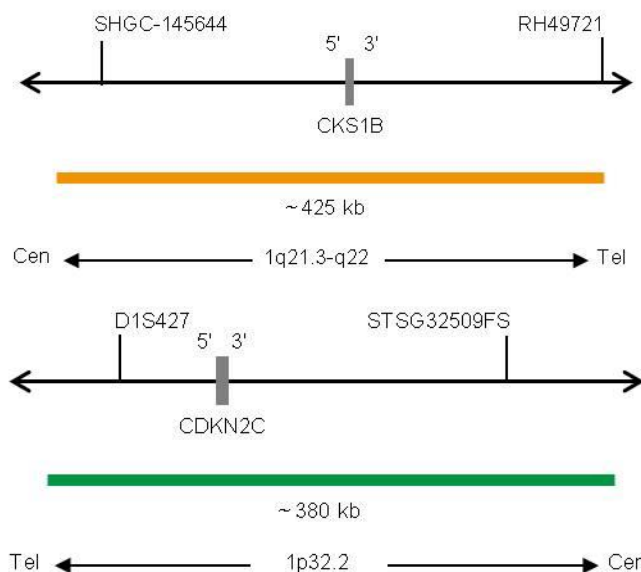

Fig. 1: Top: SPEC CKS1B Probe map; Bottom: SPEC CDKN2C Probe map (not to scale)
- ZyOrange (excitation 547 nm/emission at 572 nm) labeled polynucleotides (~4.5 ng/μl), which target sequences mapping in 1q21.3-q22\* (chr1:154,722,168-155,144,639) harboring the CKS1B gene (see Fig. 1).
- ZyGreen (excitation 503 nm/emission 528 nm) labeled polynucleotides (~10.0 ng/μl), which target sequences mapping in 1p32.2\* (chr1:51,196,272-51,577,984) harboring the CDKN2C gene (see Fig. 1).